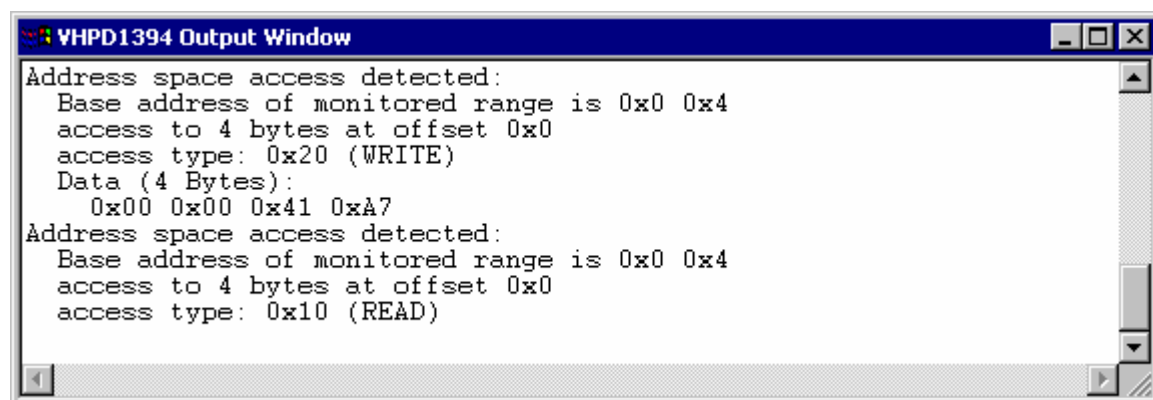

Figure 23: Outgoing asynchronous transactions (VHPD output window)
- In the Output window of VHPD demo the transactions are reported as shown in Figure 23